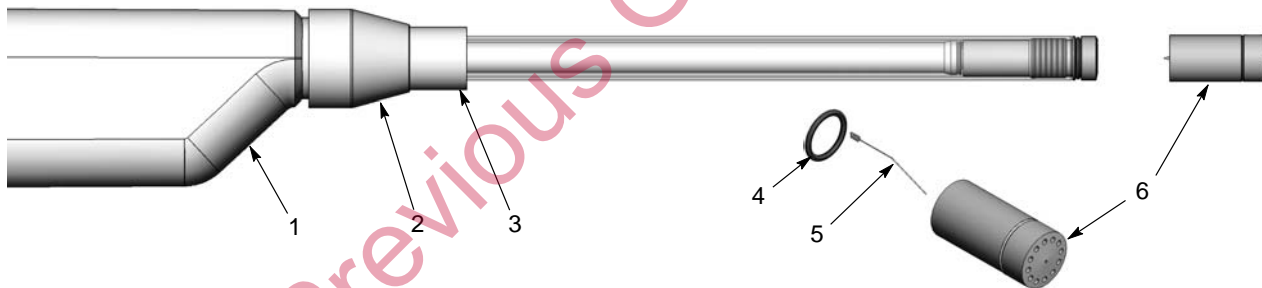

Figure 3 Installing Lance Extension and Nozzle
3. See Figure 3. Install the lance assembly (3) into the end of the spray gun body (1) while pulling the powder tubing slack out of the rear of the gun.